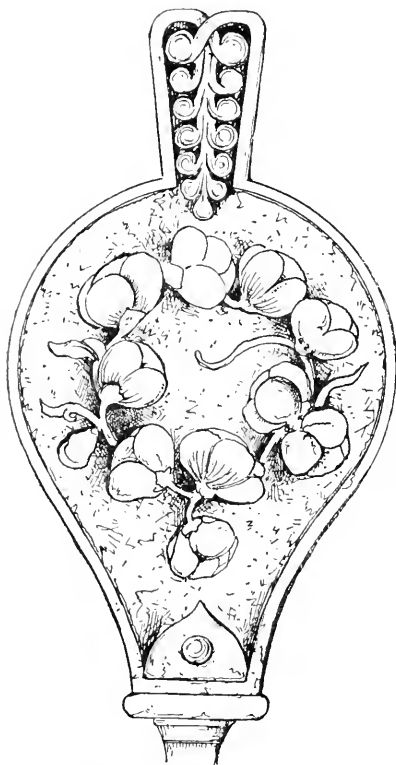

Fig. 74. THE WIND-FLOWER,
*Bellows.* These are carved in low relief, and may be ornamented by simple indentation or outlining and stamping. It is the easiest course to get the wood and saw it out, half or one-third inch walnut or oak, and then carve it, and have the bellows made up, Figs. 74 and 75.